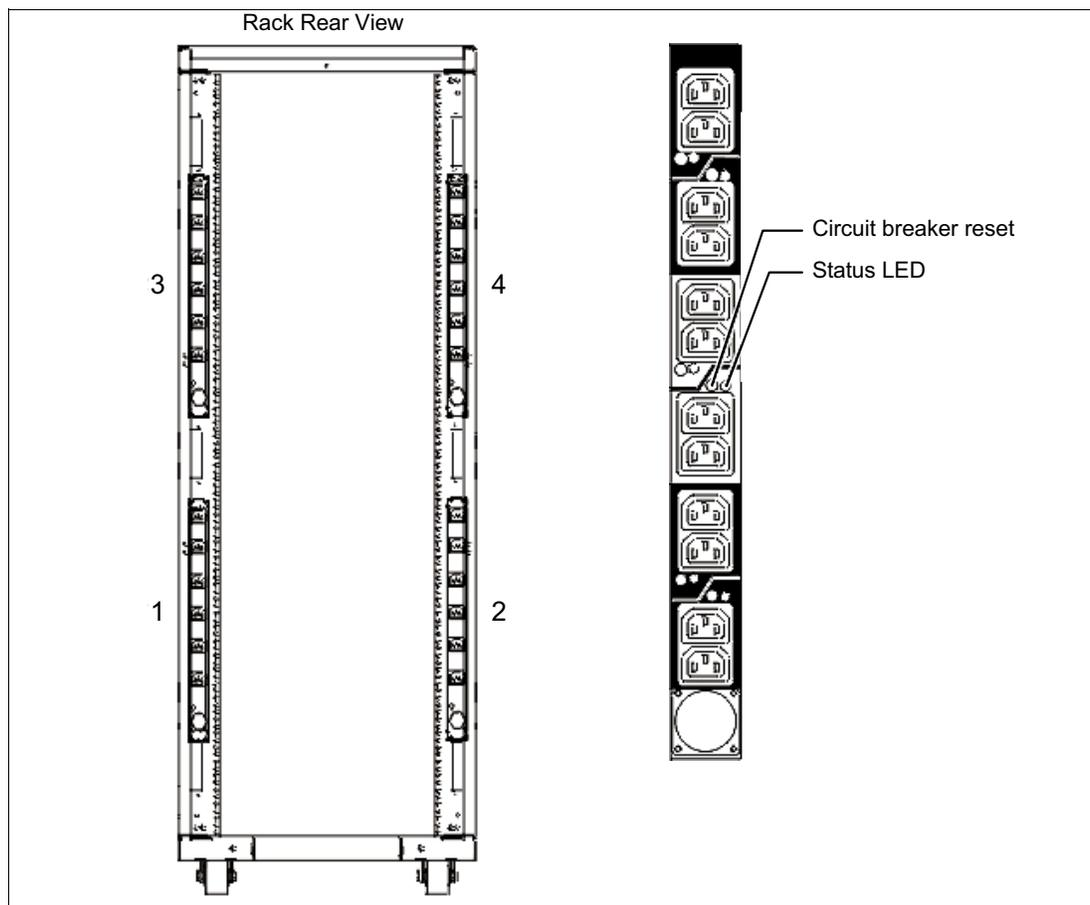

Figure 1-17 Power distribution unit placement and view
- ▶ Up to four power distribution units (PDUs) can be mounted in the PDU bays (see Figure 1-17 on page 34), but others can fit inside the rack. For more information, see 1.6.7, “The AC power distribution unit and rack content” on page 33.
Figure 1-17 shows the placement of the four vertically mounted PDUs.